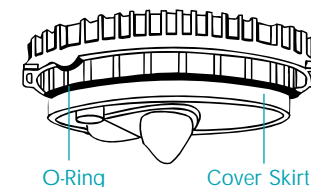

Figure 17
**Wet O-Ring.** Place it around inside **Cover Skirt** as shown (Figure 17).